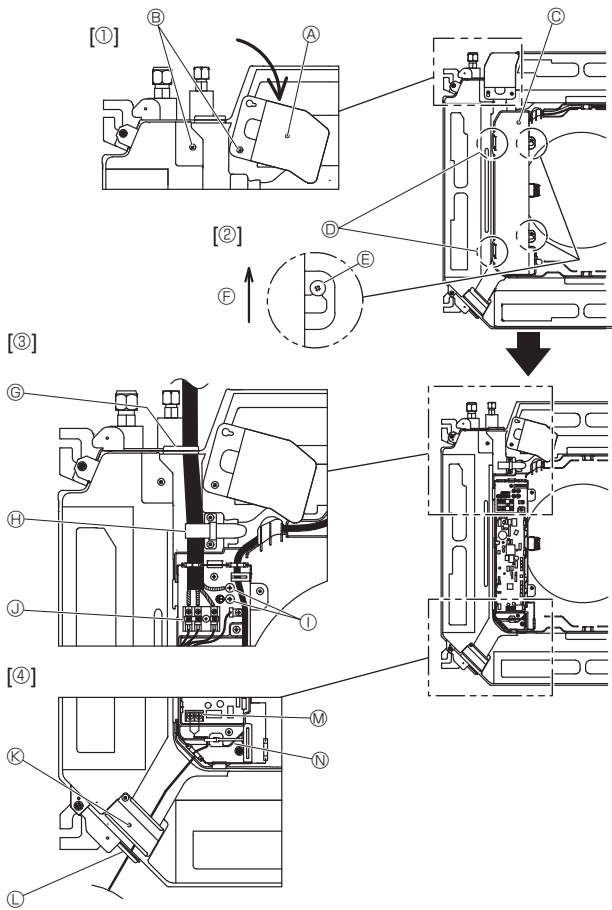
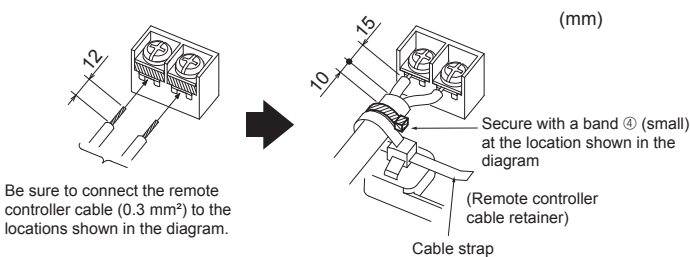

Fig. 6-1
Fig. 6-3
### 6.1. Indoor unit (Fig. 6-1)
- Loosen the two screws securing the electrical wiring service panel, and then turn the electrical wiring service panel. [Fig. 6-1 ①]
- Loosen the two screws securing the electrical box cover, then slide the electrical box cover. [Fig. 6-1 ②]
- Pass the power cable, indoor/outdoor unit connecting cable and ground wire through the wiring entries given in the diagram. [Fig. 6-1 ③]
If you cannot use round crimped terminals, see Fig. 6-3 to 6-6.
- Pass and wire the remote controller cable through the wiring entries given in the diagram. [Fig. 6-1 ④, Fig. 6-3]